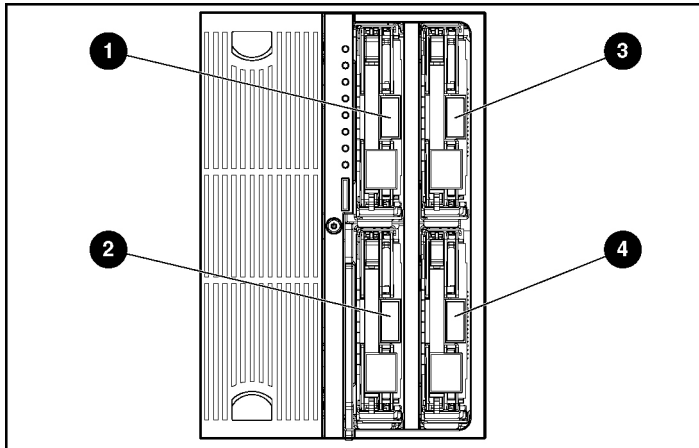

Figure 1-22: SCSI ID numbers
The server blade hot-plug SCSI hard drives have unique SCSI IDs that the system automatically sets. Figure 1-22 shows SCSI IDs for the server blade.
IMPORTANT: Always populate hard drive bays starting with SCSI ID 0 (items 3 and 4 in Figure 1-22).